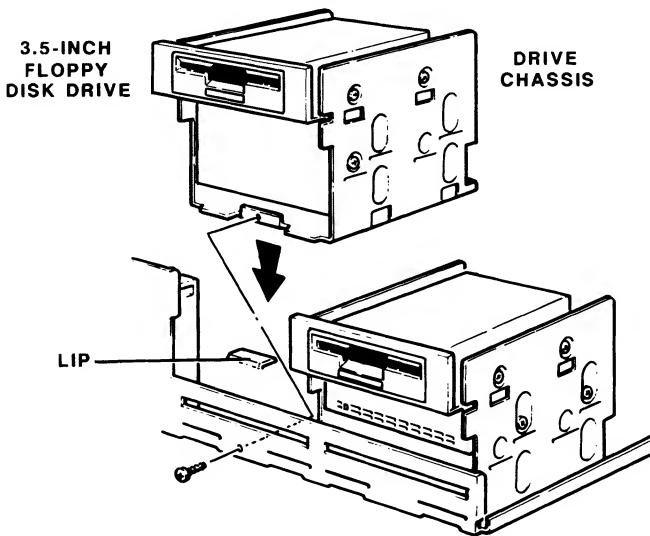

Figure 5-11. ReInstalling the Drive Chassis
10. Reinstall the drive and drive chassis back in the computer. Slide the drive chassis in so that it catches the lip on the computer chassis. Line up the tabs on the bottom of the drive chassis with the corresponding slots on the front of the computer chassis. Refer to Figure 5-11.